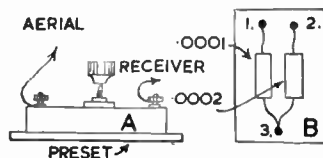

Fig. 1—Adding an aerial condenser
The simplest way to sharpen tuning is to connect a condenser in series with the aerial lead-in, and this is particularly useful with small valve sets where reaction can be used to maintain volume. The smaller the capacity of this condenser, the more sharp will tuning become. However, very small values reduce volume severely. Because of this a variable or preset condenser of about .0003 or less, maximum capacity, is best. Such a condenser is shown at (A), Fig. 1. By turning the small knob it can be adjusted to the most suit-
Another method is to use one or more small fixed condensers. If two condensers, such as shown at (B), Fig. 1, are wired to three terminals fixed to a piece of insulating material, different capacities may be selected. Connecting to 1 and 2 will give a capacity of roughly .00007 mfd. Terminals 1 and 3 provide .0001 mfd., and terminals 2 and 3 .0002 mfd. If terminals 1 and 2 are joined the capacity will be .0003 mfd., and all these capacities can be tried in series with the aerial lead-in.
To use, tune in the troublesome station on the receiver and tune the wavetrap until this station is cut almost or completely out. No further adjustment of the wavetrap is then required, and a preset condenser (A), Fig. 1 can be used to tune it. For medium waves, 90 turns of 32 S.W.G. enamelled wire on a 1 in. former will be suitable. Long waves would require about 250 turns of similar wire wound in two compact piles.